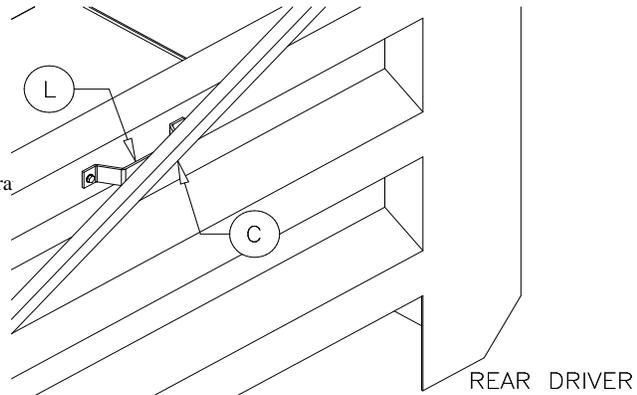

Figure 22
Procedure: Close the tarp. Place a pivot arm guide (L) along one of the ribs in the box wall (see Figure 22). Make sure the guide is aligned with the pivot arm (C) (see Figure 22). Mark the position of the pivot arm guide. Using a 11/32" drill bit, drill two holes into the box wall. Secure the pivot arm guide to the box wall with the 3/8"x1-1/4" self threading bolts provided.